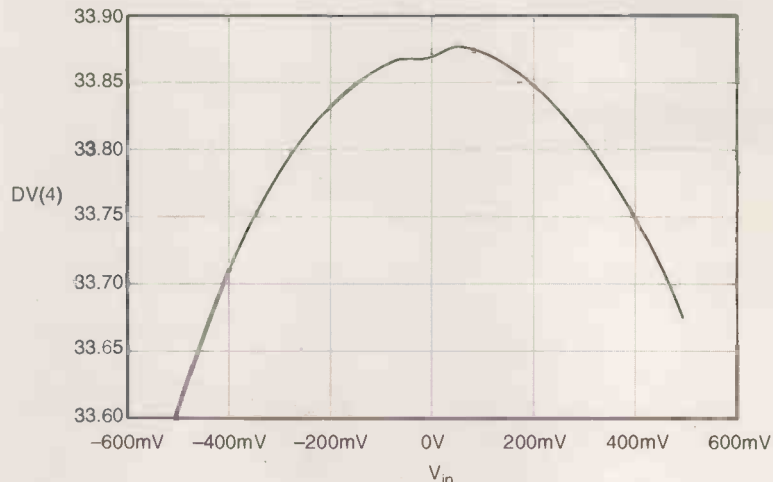

Fig. 3. Closed-loop voltage gain simulated using PSpice.
Using equation (4), the peak output current is approximately 20A. The closed-loop voltage-gain of the circuit is depicted in Fig. 3. The nearly sym-